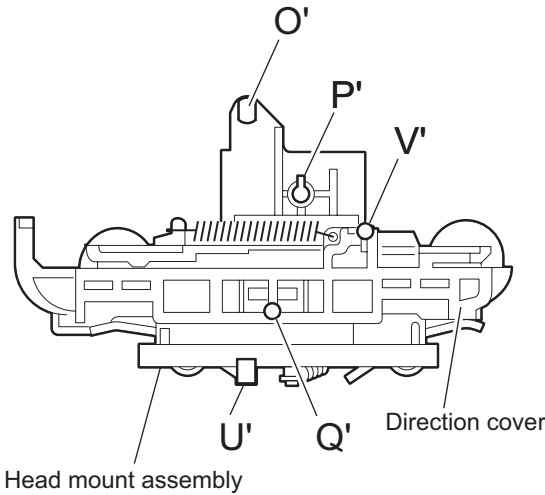

Fig.11
**(See Fig.11~13)**
- (1) Reattaching the head mount assembly.
- b) Fit the bosses **O'**, **P'**, **Q'**, **U'** and **V'** on the head mount assembly to the holes **P** and **V**, the slots **O**, **U** and **Q** of the mechanism sub assembly (See Fig.11 to 13).